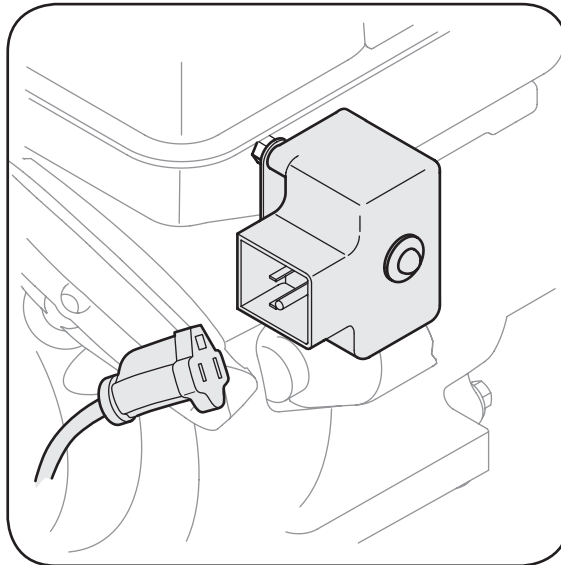

Figure 2-6: Plug cord into electric switch box on engine.
3. Plug the extension cord into the electric switch box located on the engine, Figure 2-6. Plug the other end of extension cord into a three-prong 120-volt, grounded, AC outlet in a well-ventilated area.